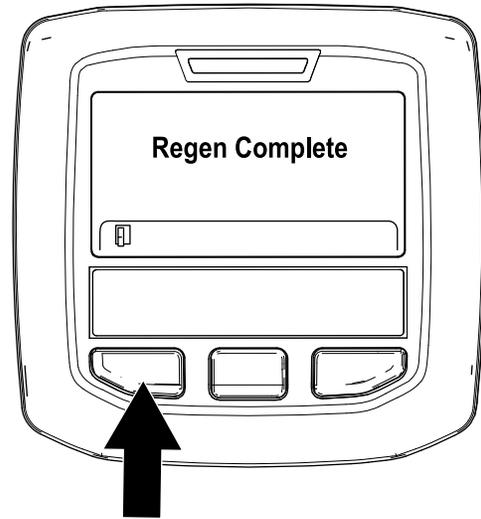

Figure 40
9. The parked regeneration is complete when the “Regen Complete” message displays in the InfoCenter. Press the left button to exit to the home screen (Figure 40).